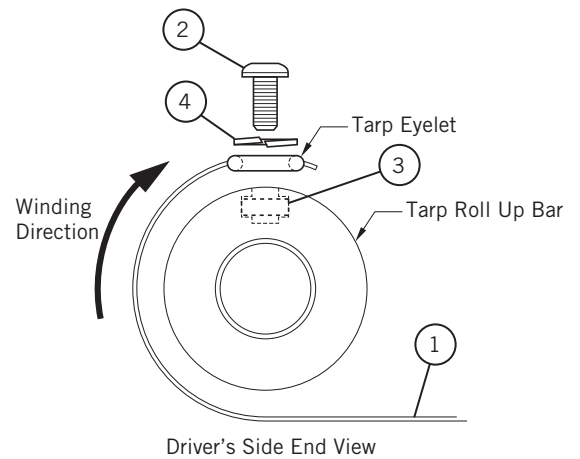

Figure 34-1
- 1) **Figure 34-1.** Pull the loose end of the tarp (1) under the roll up bar, winding from the underside. Make sure the tarp is centered from side to side.
- 3) Secure tarp (1) with 1/4-20 x 1/2 pan head (2), 1/4-20 square nuts (3), and 1/4 split lock washers (4).